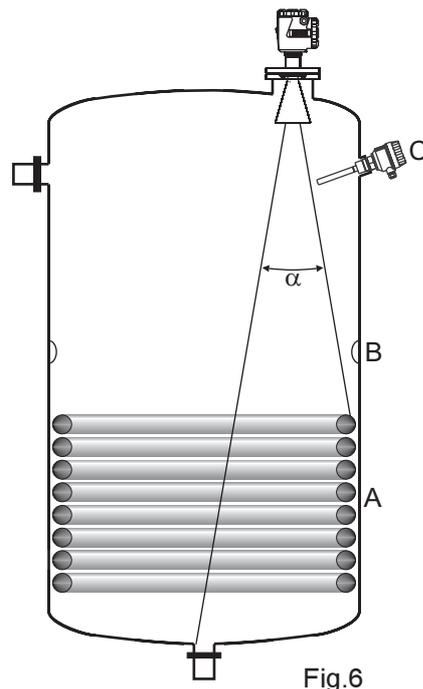

Fig.6
- Internal devices having symmetrical structures such as heating coils (fig.6/A) and vacuum rings (fig.6/B), can generate false echo signals.
- Avoid any installations, as limit switches or temperature sensors, inside the signal beam.(fig. 6/C).